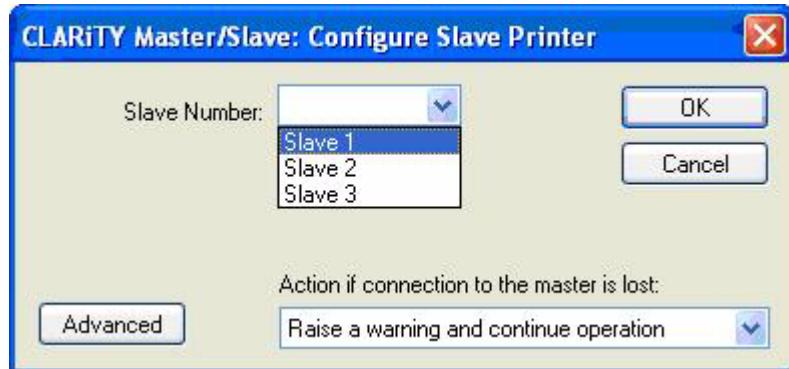

Figure 10-3: Configure Slave Printer
A configure slave printer dialog box appears (Figure 10-3).
- 3 Select the Slave number (One, Two or Three) from the drop-down list (Figure 10-3).